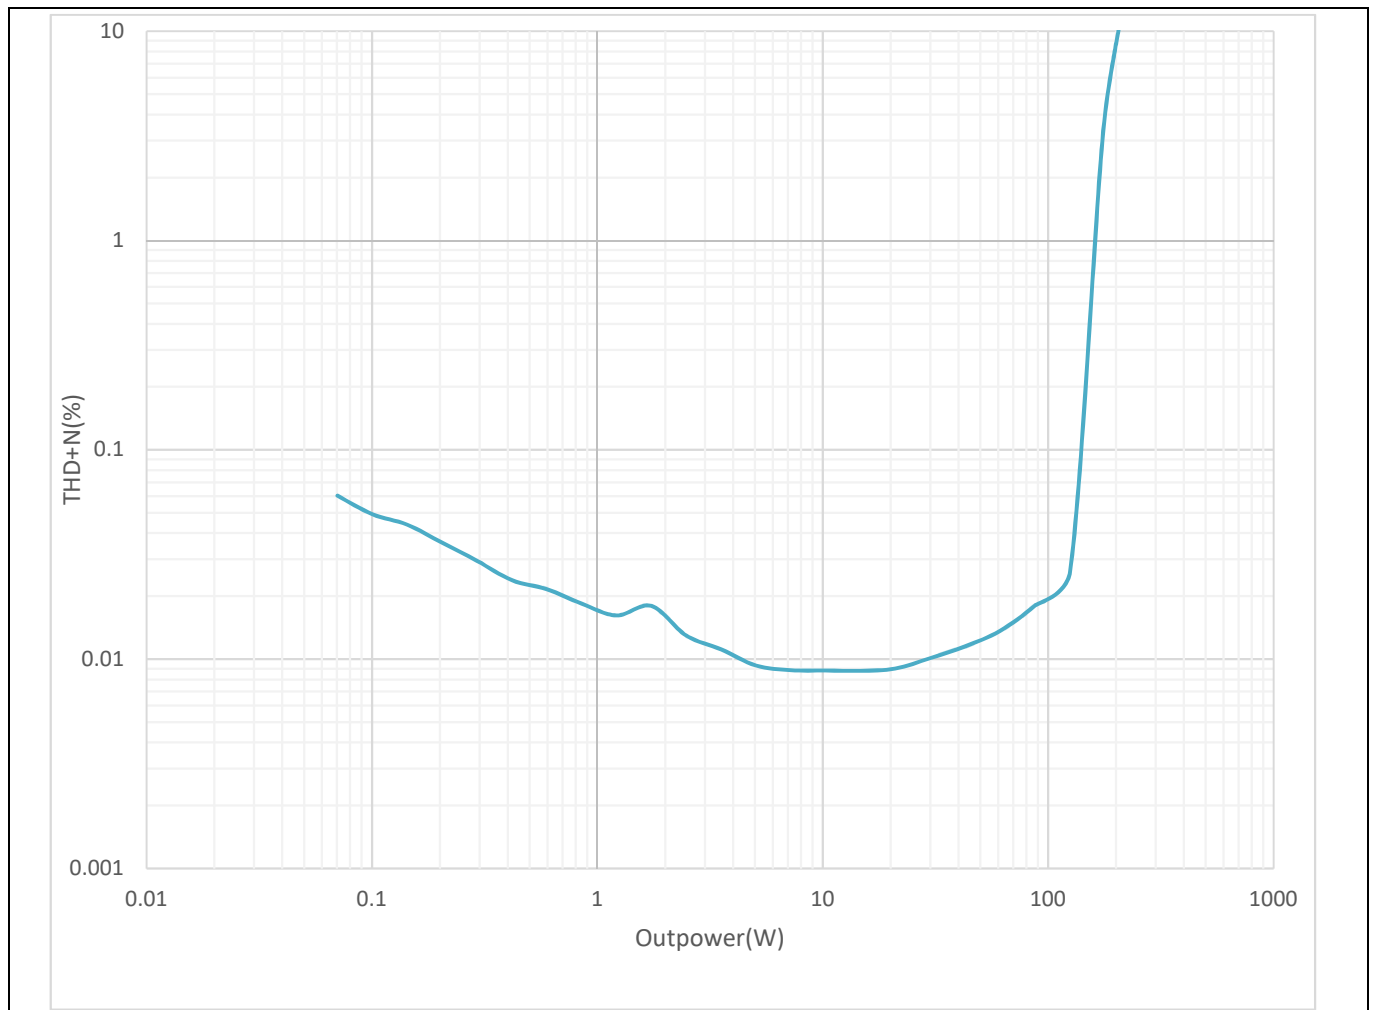

Figure 4 Power vs. THD+N 8Ω load
8. Run the AP tests as shown in Figures 4 to 11, below.